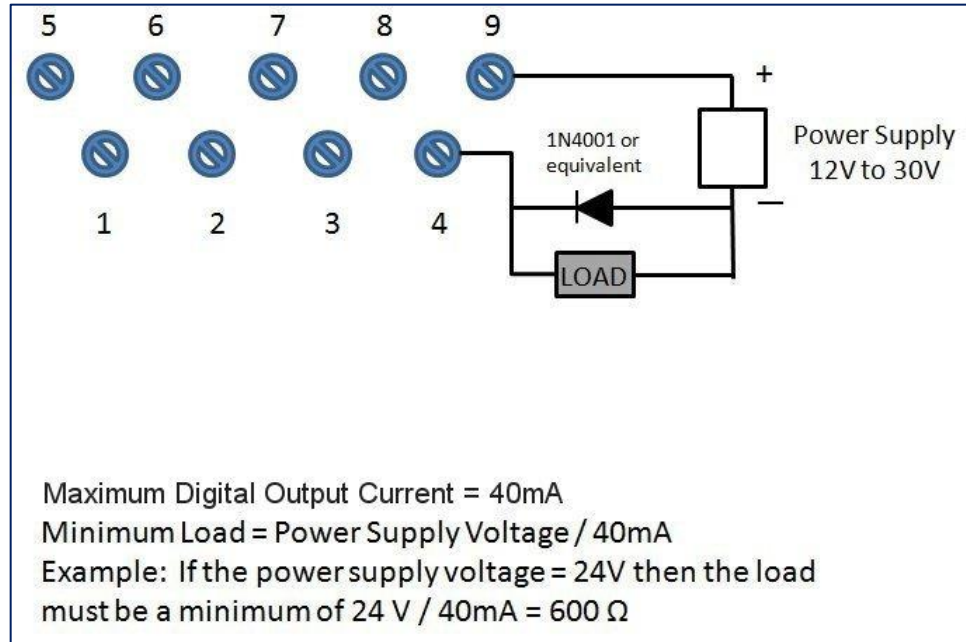
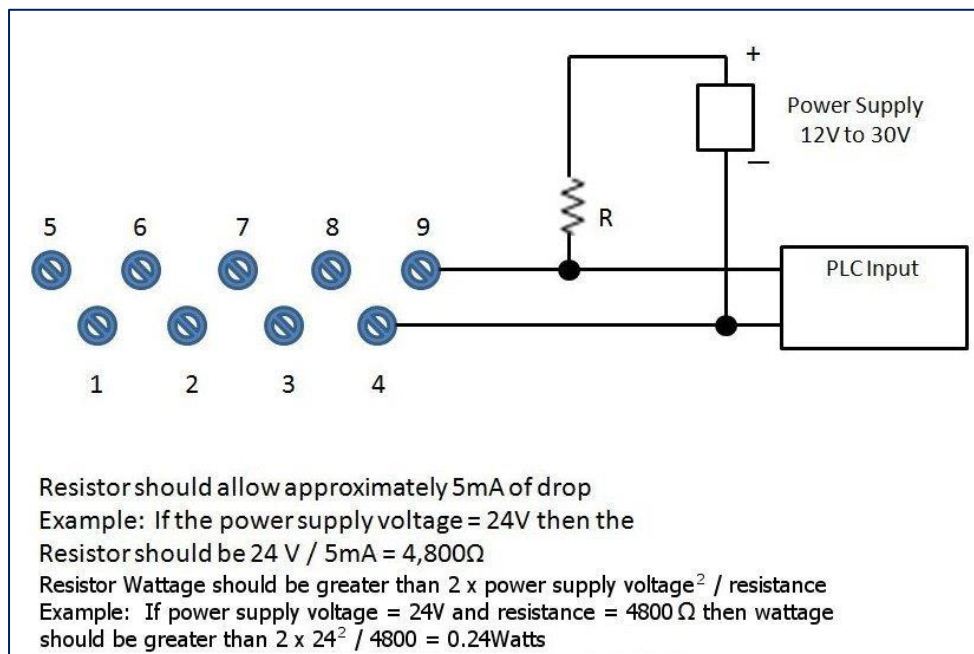

Figure 18 – Digital Output Connections for mA Load (HART only)
Figure 19 – Digital Output Connections for PLC Counting Pulse (HART only)
Digital Output is available only on HART transmitters. The Digital Output should not use the same power supply as used to support the 4-20mA transmitter output. See Figure 18 and Figure 19. For Intrinsically Safe (IS) applications, the 4-20mA and the Digital Output must use separate IS Barriers.